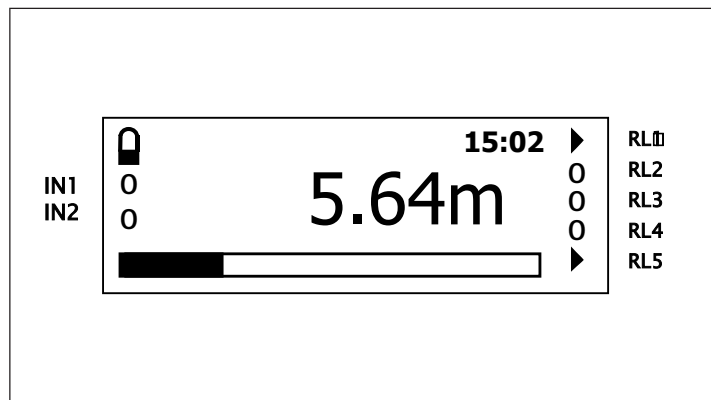

Figure 2 : Typical MSC900 liquid crystal display
Typically the 4 line display is as shown in Figure 2, The top line shows whether the programme lock is open together with the time display. The actual measurement, the MSC900 Primary Variable (PV) is displayed in the centre using double height characters. The lower line shows a bargraph representation of the 4-20mA current output of the control unit, proportional to the PV, 0-100%.
There are 6 buttons on the MSC900 front panel. The four ARROWS allow navigation around the programming menu and the "ESC" and "↵" buttons allow movement from one screen to the next. By pressing "ESC" repeatedly, the screen will always return to the normal display as shown in Fig 2. Movement through the menu structure using the arrows is shown by the titles being "highlighted", ie reversed to show white letters on a dark background. The LCD is backlit for operator convenience. (This can be turned off if required).